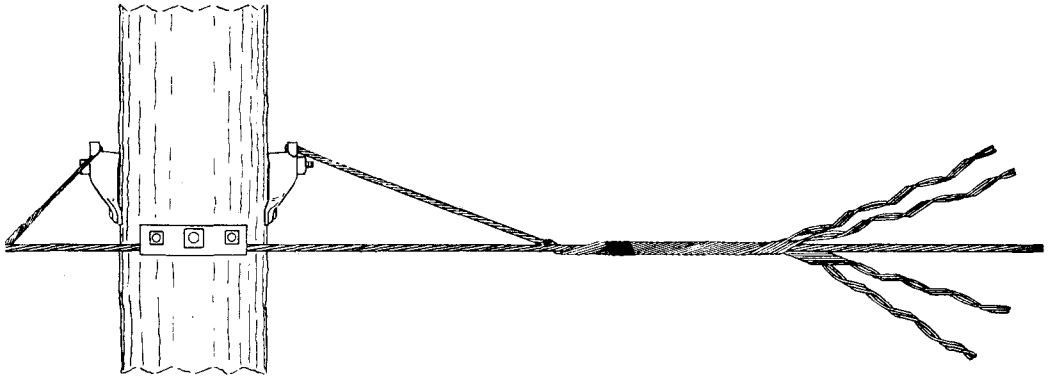

Fig. 12—Legs Split
- (3) Finish applying the ends of the two legs, making sure to snap the ends into place. In most cases it will be desirable to split the legs for one or two pitches as illustrated in Fig. 12.